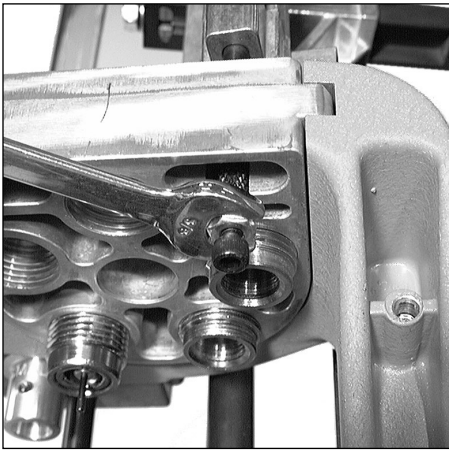

FIG 61
7. Secure the jam nut by holding the black push rod while tightening it using a 3/8" wrench **FIG 61**.